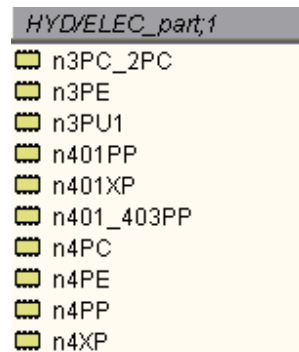

Figure 79 : Synchronization – Component selection
- Fill the events list having to be synchronized, using the line editor associated to the Event zone. In order to facilitate the filling of this assertion, the short cut **Ctrl+<SPACE>** gives access the hierarchical navigator (Figure 79) for the search and selection of component events.